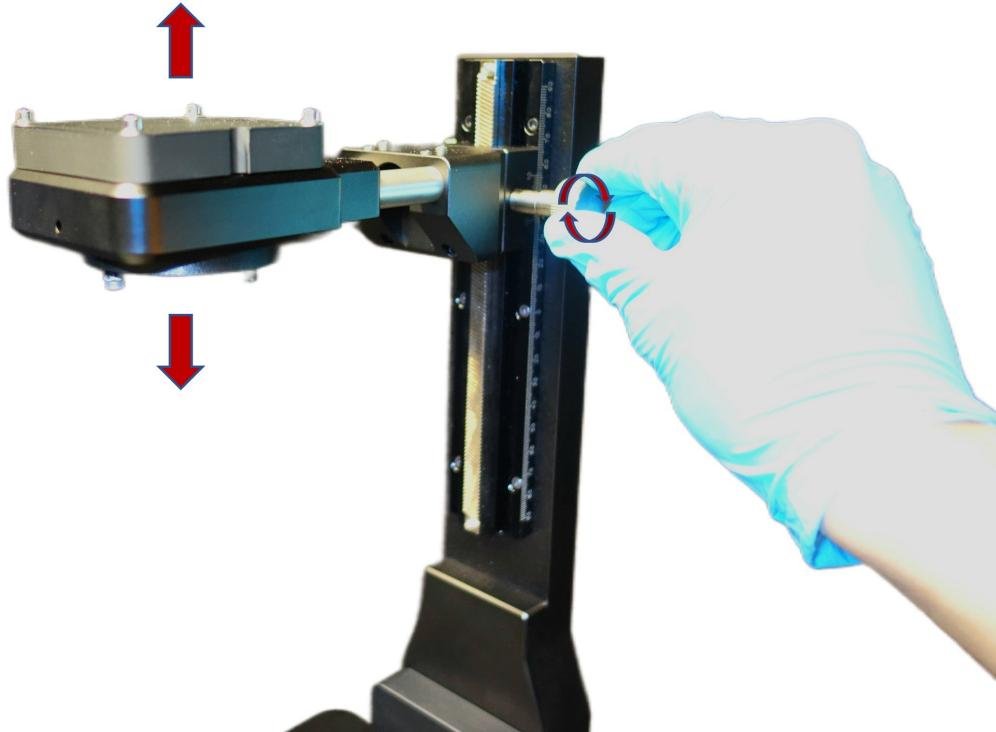

Figure 6: Adjusting the transillumination source height.
5. The height adjustment screw on the transillumination pillar may be turned to raise or lower the source as required (Figure 6).